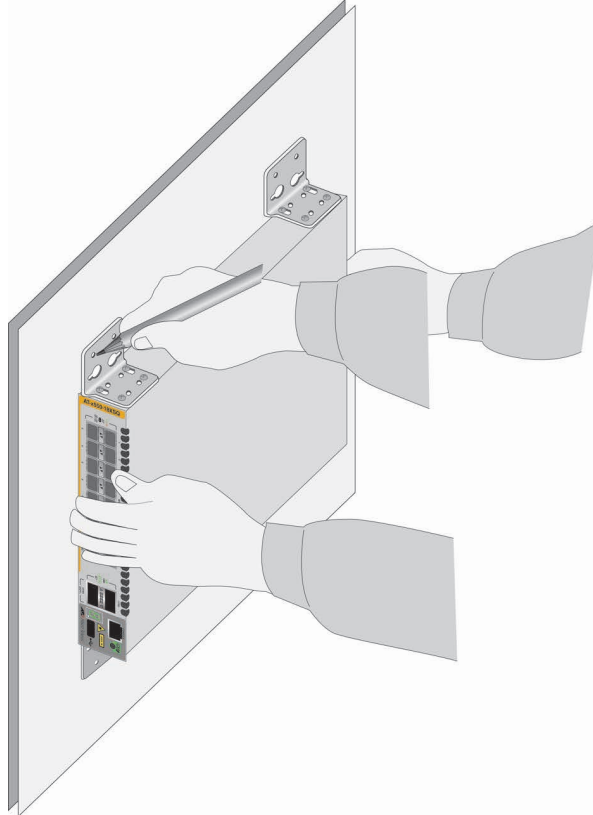

Figure 61. Marking the Locations of the Bracket Holes on a Concrete Wall
4. Have another person hold the switch on the concrete wall at the selected location for the device while you use a pencil or pen to mark the wall with the locations of the four screw holes in the four brackets (one screw per bracket). Refer to Figure 61 on page 120.